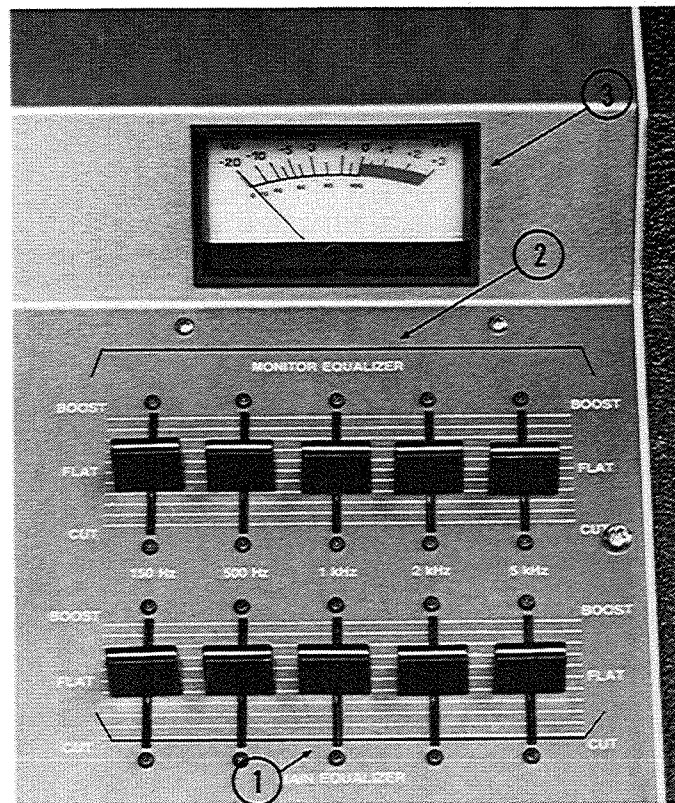

FIGURE 7 — Equalizer Controls and VU Meter
This adjusts the composite level for the Main channel output. It actually controls the gain of the summing amplifier thereby preventing it from overloading. This means that the Channel Level controls can be operated at higher levels while the Master Level can be operated at lower levels, improving the useable signal-to-noise ratio. Loudness of the Main channel is indicated by the VU Meter (Fig. 7 - Item 3).
Main Equalizer (5 Slide Controls) (Fig. 7 - Item 1)
(5 Slide Controls) (Fig. 7 - Item 2)
VU Meter (Fig. 7 - Item 3)
4. Set both Main and Monitor equalizers (Fig. 7 - Item 1 and 2) to their "flat" (center) positions.
The MA6 has two 5-band graphic equalizers (Fig. 7 - Item 1 and 2) one for the Main speakers and one for the monitors. These equalizers are used to adjust the tonal quality to suit the acoustics of the room and to give more volume before feedback occurs. Exam-